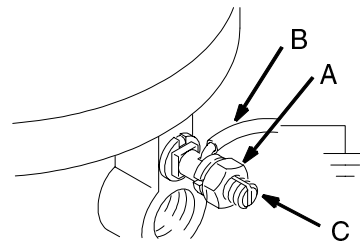

Fig. 3
1. *Pump:* Loosen the grounding lug locknut (A) and washer. Insert one end of a 12 ga (1.5 m2) minimum ground wire (B) into the slot in the lug (C). Tighten the locknut securely. See Fig. 3. Connect the other end of the ground wire to a true earth ground. Order a Grounding Clamp, P/N 103538, and a Grounding Wire, P/N 208950, (25 feet (7.6 m) long, 12 ga.).